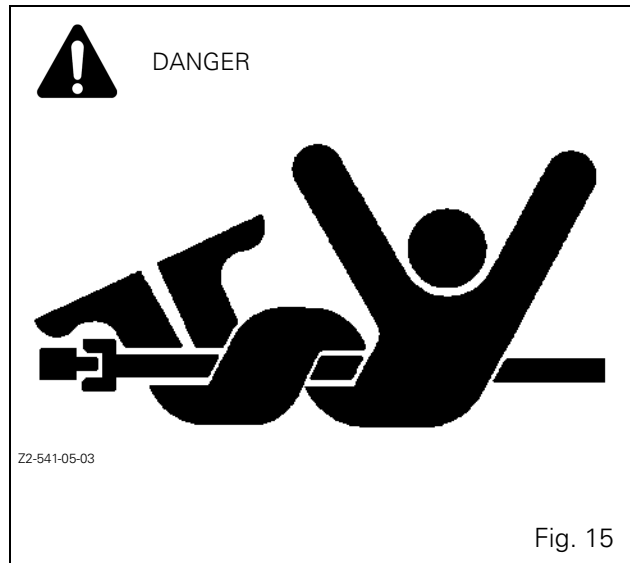

Fig. 15
- Ensure that all the PTO transmission shaft guards and shields are in place and check the presence of all safety decals (Fig. 15).